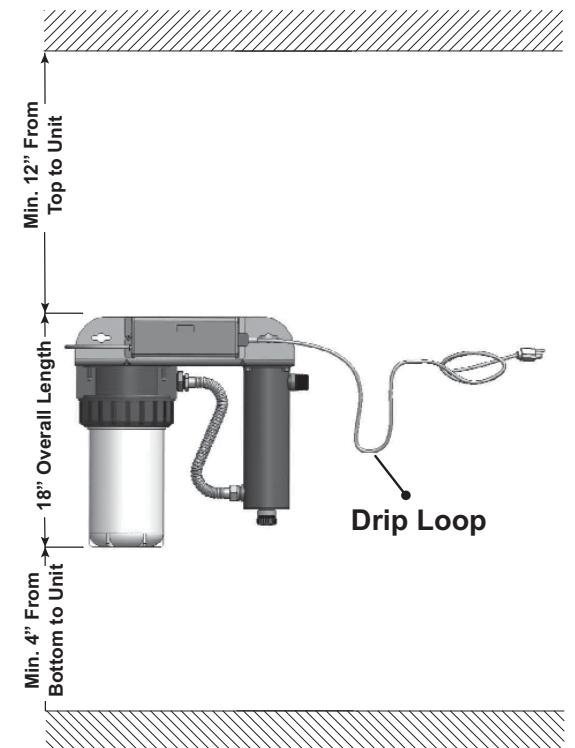

Figure 3 Disinfection Installation
The disinfection system is designed to be installed at point-of-entry. Drip loops in all cordage connected to the controller is highly recommended. Refer to Figure 3.
2. Select a suitable location for the disinfection system and its related components. As it is recommended to install a ground fault protected circuit (GFCI), make sure that this is taken into consideration prior to any installation. When selecting a mounting location, enough space must be left to allow for the removal of the UV lamp sleeve, as well as enough space to change out the filter cartridges. See Figure 3 for typical clearance dimensions.
4. Make sure you allow for a "drip-loop" on the power cord to prevent any water from potentially entering the controller. Refer to Figure 3.